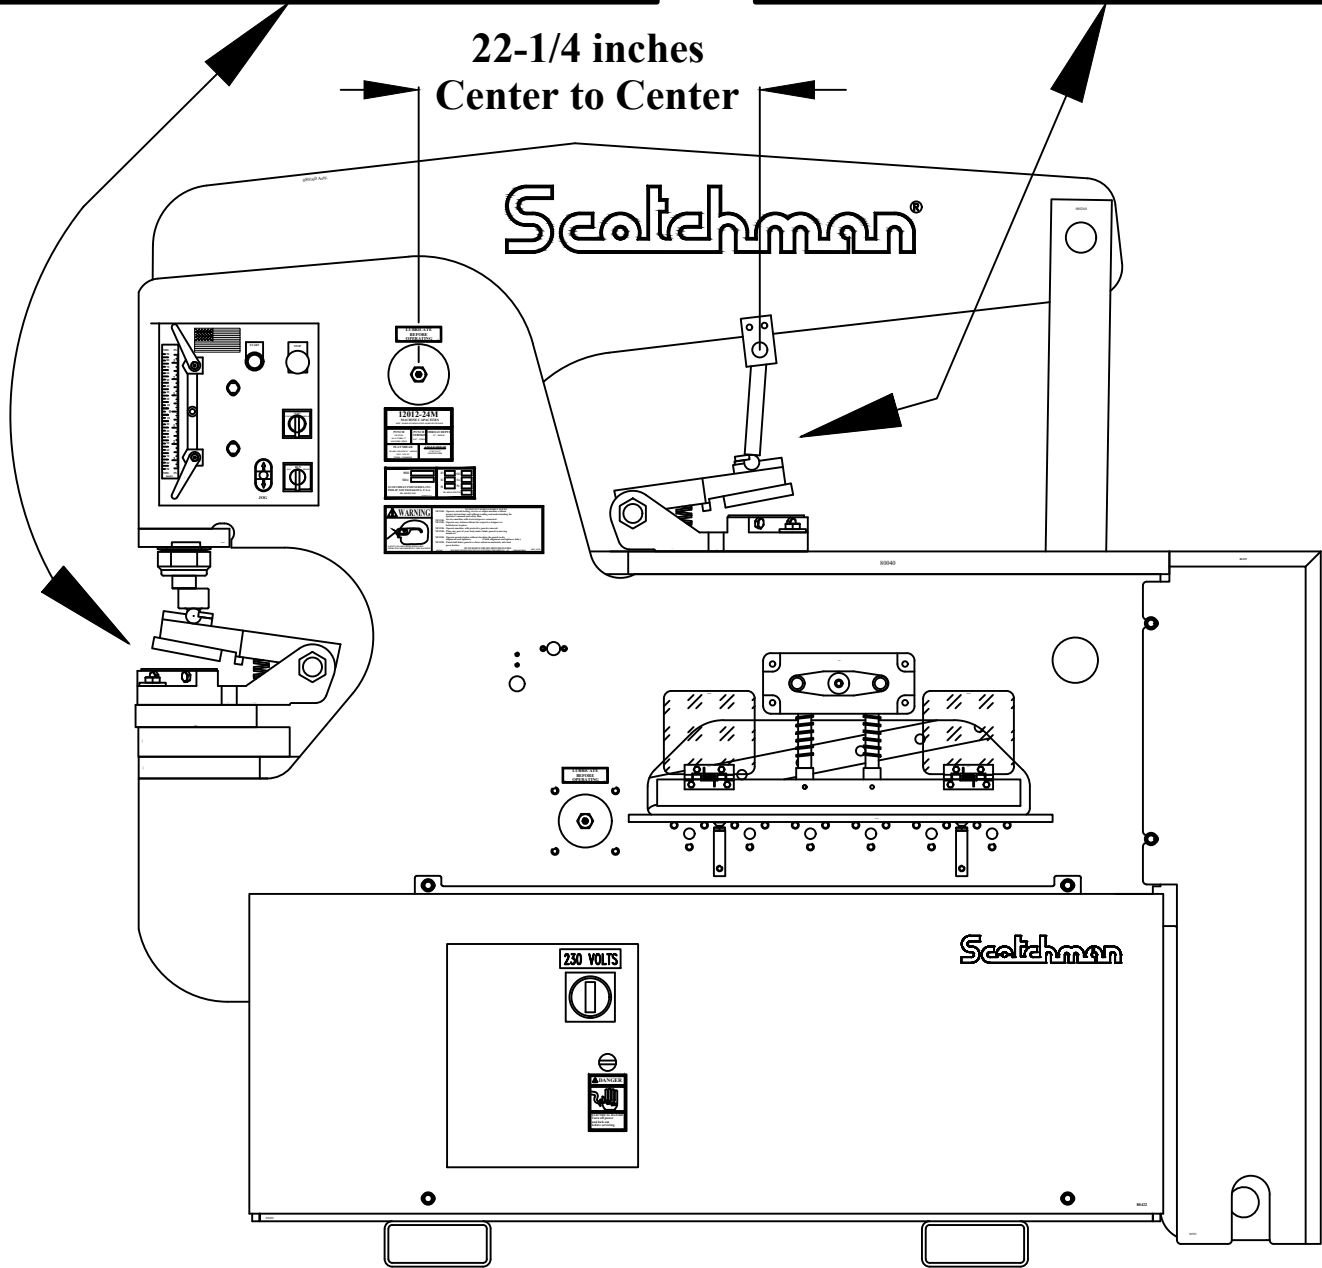

FIGURE 16
SEE FIGURE 16 ON THE FOLLOWING PAGE.
To install the notcher under the upper arm, the tool should be mounted as close to the frame as possible and anchored with the bolts and thick washers (A) provided. The pusher (B) and beam block (C) should be installed per the dimensions in FIGURE 16 on the following page.
To mount the notcher in the punch station, first remove the die holder, stripper and punch. Install the punch pusher (G) to the punch ram using the #45 punch retaining nut (H). Mount the riser plate (F) to the punch bolster with the bolts provided. The notcher is bolted to the riser plate with the bolts (D) and thick washers provided. SEE FIGURE 16 ON THE FOLLOWING PAGE. Line the pusher (E) up to the punch ram and tighten the mounting bolts. After the notcher is mounted, install the neoprene slug pad. Notcher Pusher (E) should align as shown, with the punch pusher toward the front of the notcher pusher.